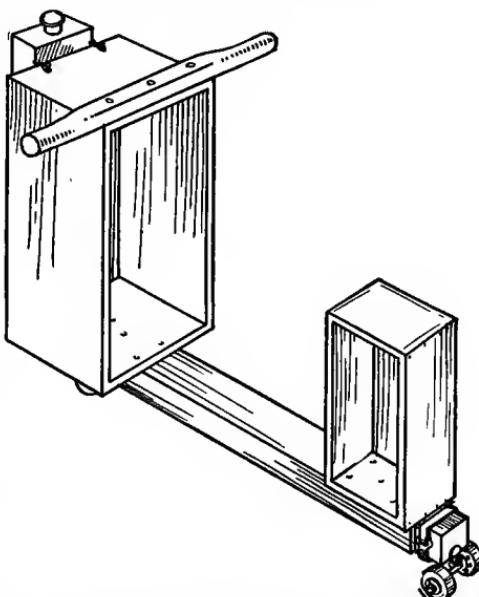
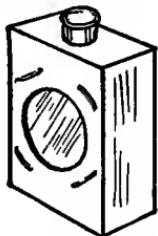
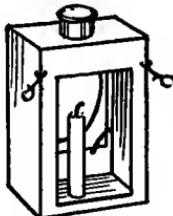

FIG. 566.—View of Skatemobile from the Side.
FIG. 573.
FIG. 574.
A Popular Type of Skatemobile is shown in Fig. 565, and details of its construction are shown in Figs. 566 to 568.
The short box on the rear of the reach-board (Fig. 566) is A Seat which many boys add for coasting. After pushing the car from a standing position until it has attained enough momentum to carry it a considerable distance, the driver jumps aboard and, holding firmly to the handle-bars, drops back on to the seat.
**A Headlight** for the skatemobile can be made from a small varnish-can (Figs. 573 to 575). One of these can be procured for the asking from a painter. Mark out a circular opening upon one face of the can with a pencil, and cut it with a can-opener (Fig. 573). Then mark a larger square opening upon the opposite face and cut it in the same way (Fig. 574). Get a small piece of glass for the front of the headlight — a 4-by-5 camera plate will do — and fasten
it to the inside of the can by means of wires passed diagonally across the corners and through the can, as shown in Figs. 573 and 575. Drive a large carpet-tack through the bottom of the can on to which to stick a candle.
Figure 574 shows how hooks made of wire are fastened to the back of the headlight, and Fig. 566 shows how these hook over nails driven into the top of the box hood, near the front edge. The spout of the varnish-can provides a splendid chimney for the headlight.